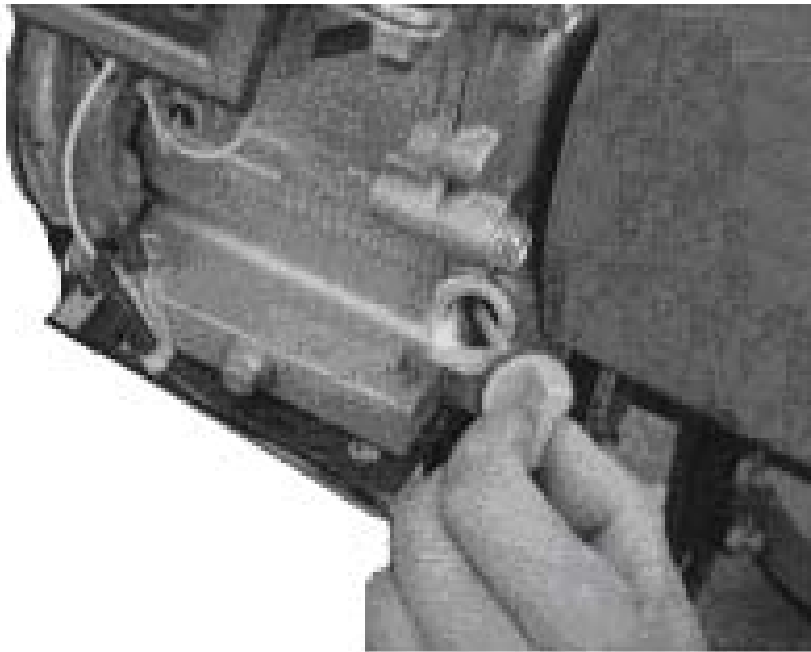

Figure 2
- Screw out the oil dipstick of the engine and clean it by wiping it (See Fig.2)